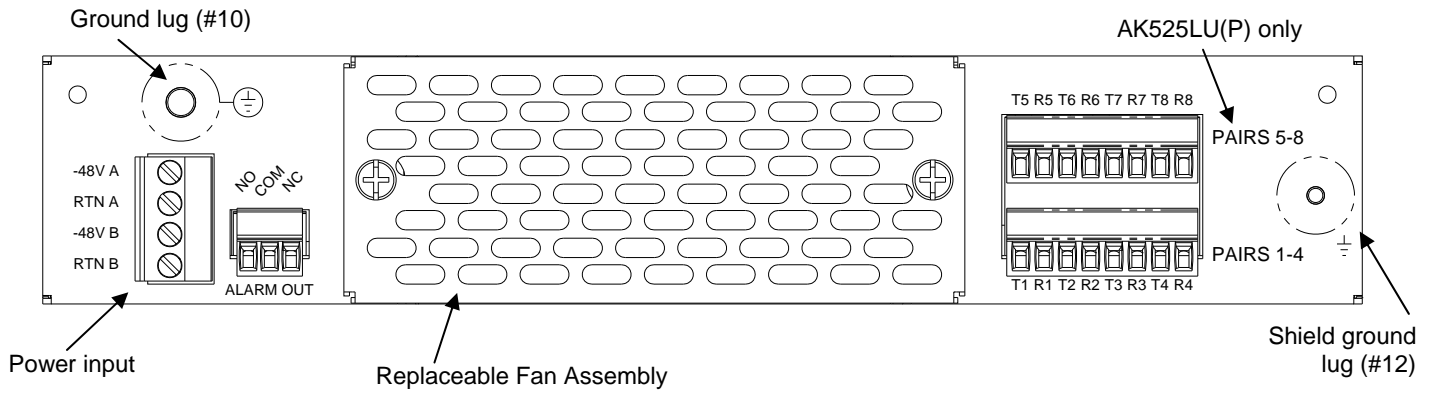
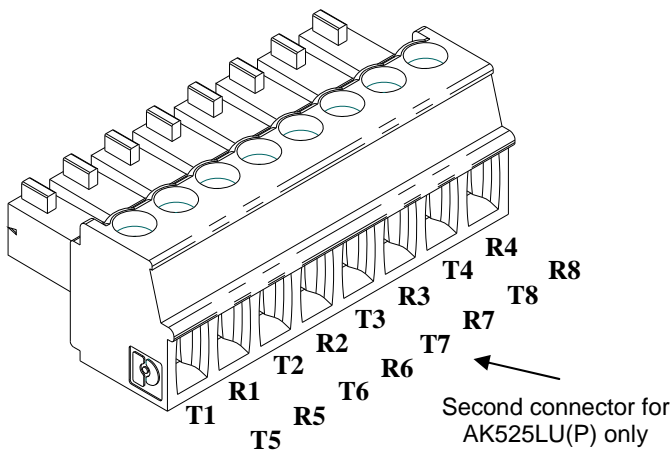

Figure 4 Compact CO Unit Back Panel (AK525LU shown)
Figure 6 Compact CO Unit
Frame Ground Connection (see Figure 4)
Power Connection (see Figure 4)
The MultiPair pluggable connector is used to connect the Aktino Compact CO to the outside plant pairs. The AK512LU(P) uses one four pair connector. The AK525LU(P) uses two four pair connectors. Insert the tip and rings into the connector as shown in Figure 6. Tighten screws on top of the connector. Insert the connector into the MSPAN plug on the back of the Compact CO Unit (see Figure 4). The Compact CO Unit MSPAN cable's shield should be connected to the ground lug.